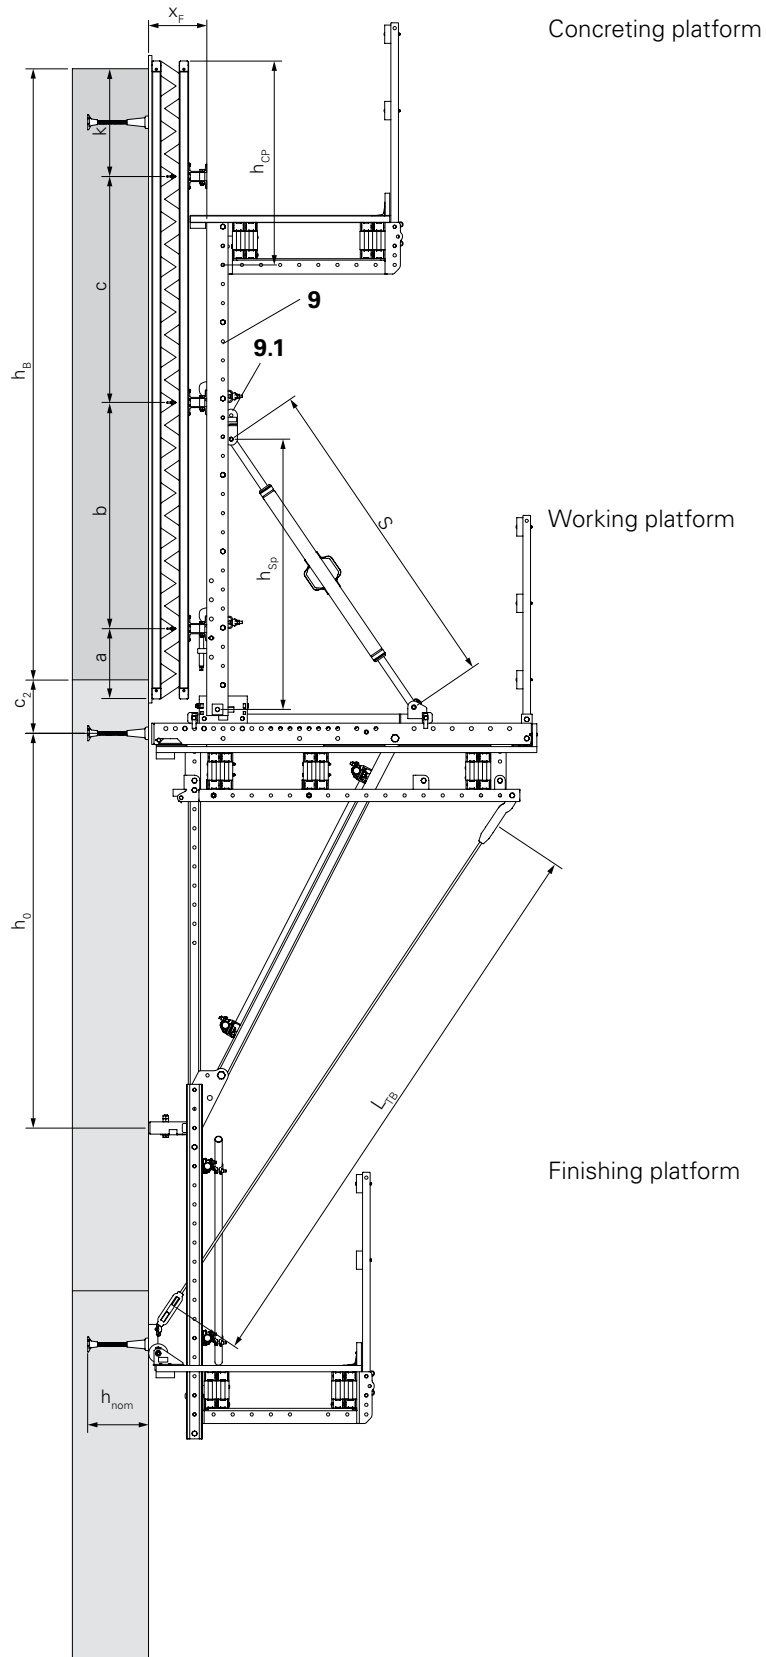

Fig. A2.01
These dimensions are decisive for the bending load of the Strongback (9). (Fig. A2.01)